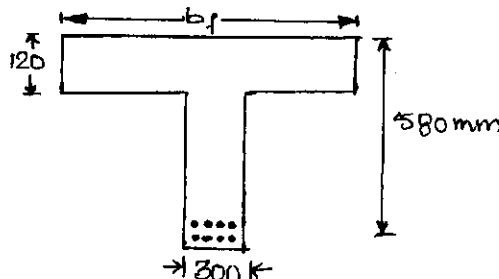

Fig.Q4(b)
- b. A T-beam RC floor system consists of 120 mm thick slab supported by beams at 3m c/c. The effective width and depth of web is 300×580 mm as shown in Fig.Q4(b). Main reinforcement consists of 8 bars of 20 mm dia. The grade of concrete and steel used are M20 and Fe415 respectively. Determine the moment of resistance of T-beam, if it is used as simply supported beam of span 3.6 m.